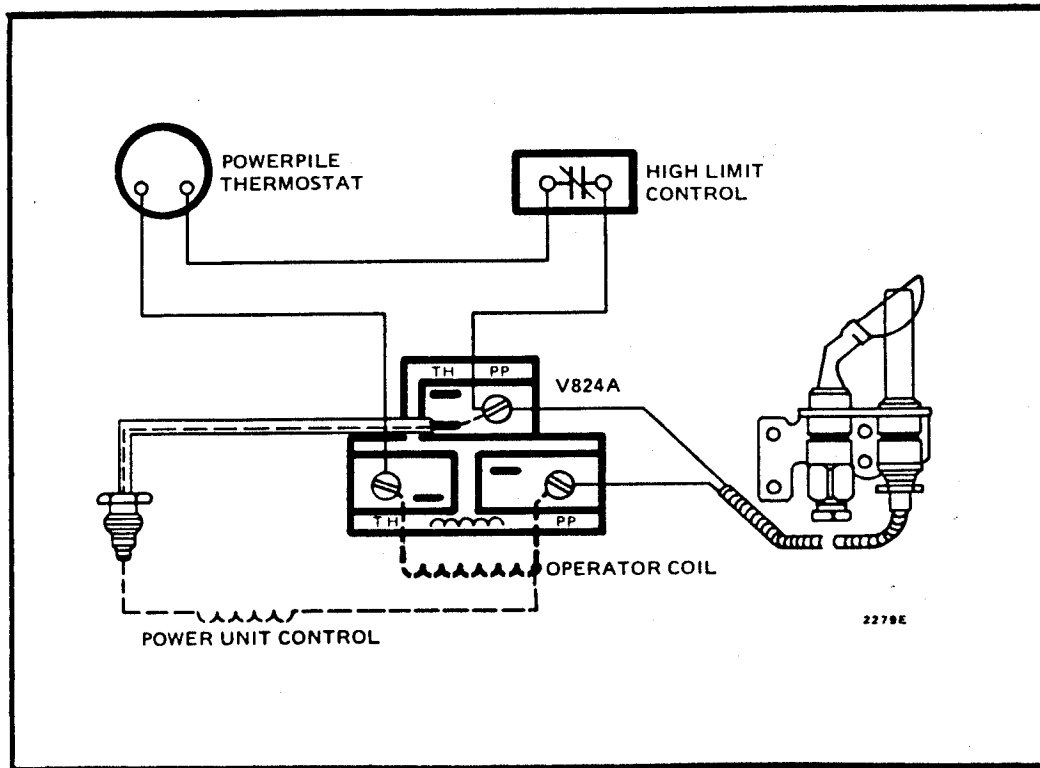

Fig. 12—Typical wiring diagram for V824A Powerpile operator.
2. After the Powerpile generator is installed, connect the leads to the operator at terminals labeled PP (Fig. 12). Make certain the